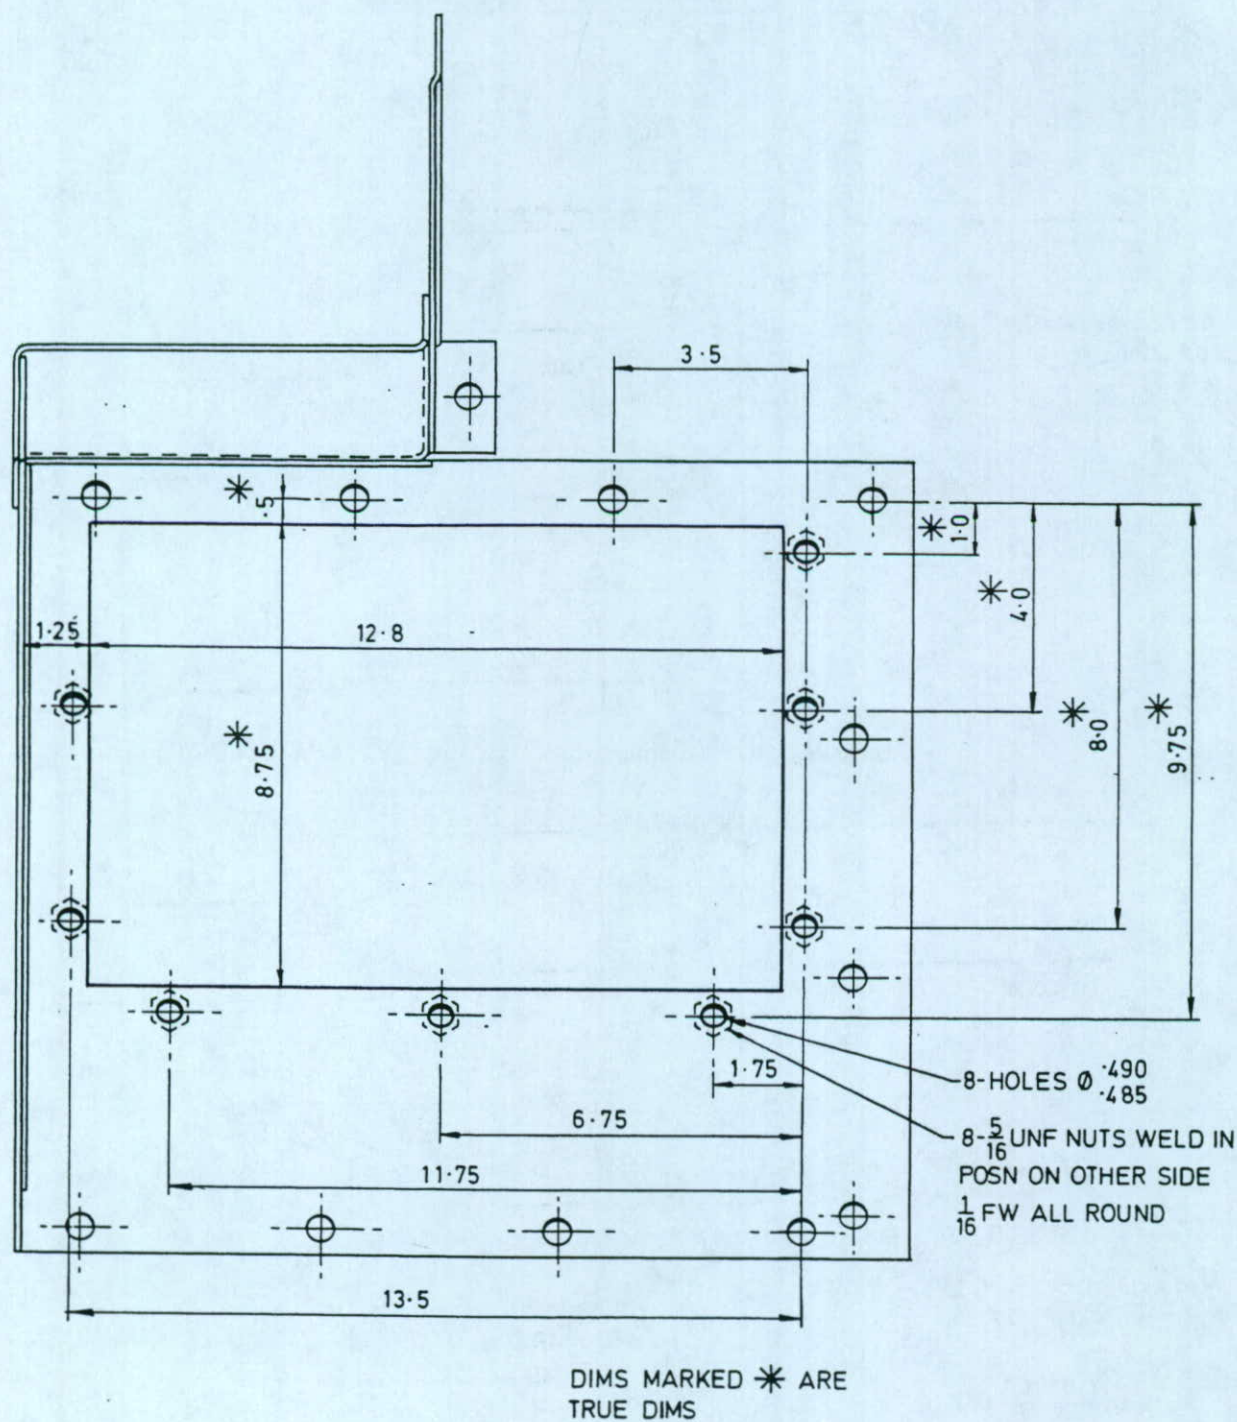

Fig 2 - Detail of modification of sealing panel
- (1) Remove engine compartment upper front sealing panel (24).
- (2) Remove inspection light bracket (22) and nomenclature plate from sealing panel, discard inspection light bracket and retain nomenclature plate.
- (3) Modify sealing panel and weld nuts (20) to panel as detailed in Fig 2.
- (4) Fit gasket (16) and container assembly (15) to sealing panel using lock washers (19) and screws (18).
- (5) Refit modified sealing panel to vehicle.